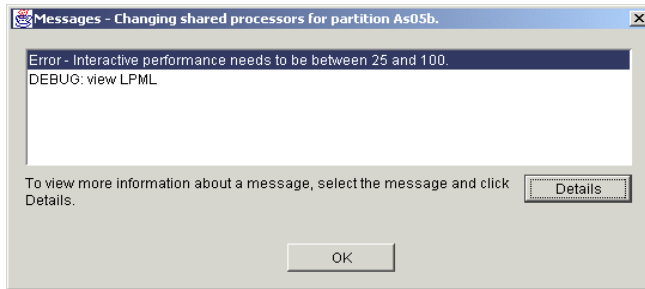

Figure 8-10 Error message when moving processing resource
5. Now an error message appears as shown in Figure 8-10. The error message states that the interactive performance needs to be between 25 and 100.